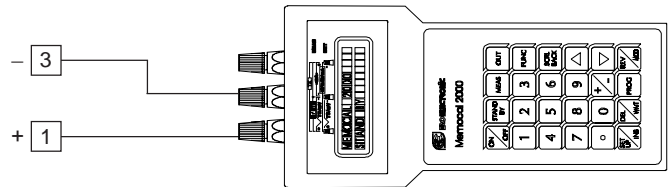

Fig.7
- 3) Connect the calibrator as shown in Fig. 7.
- 2) Connect the instrument under test to the calibrator as shown in Fig. 7.